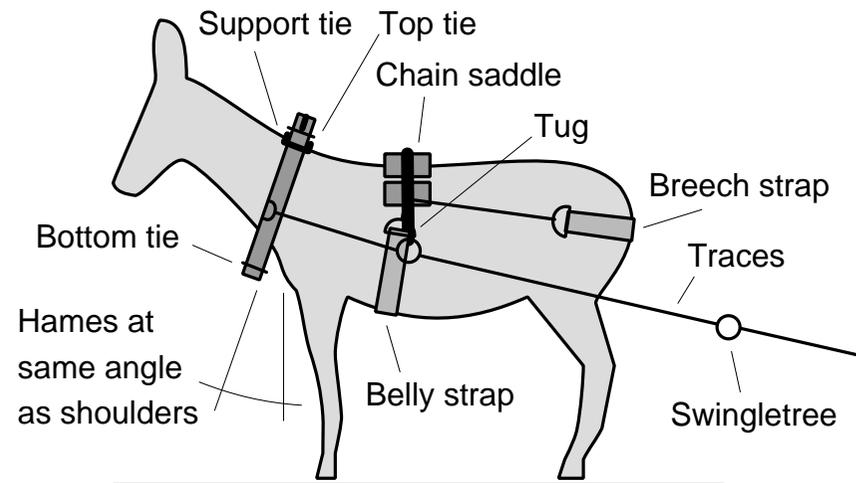

Figure 9: saddle and collar position on donkey with traces pulling at right angles to hames.
rarely the same as the ideal angle for the implement and, using a saddle, these can be adjusted independently. Figure 9 shows the general layout of harness when using the saddle with a collar.
- 3) Adjust the lengths of the tugs (the ropes or straps hanging from the saddle if you use one) so that the traces (the ropes or chains which will pull the cart or implement) come back at right angles to the animal's shoulder blades (see Figure 9).